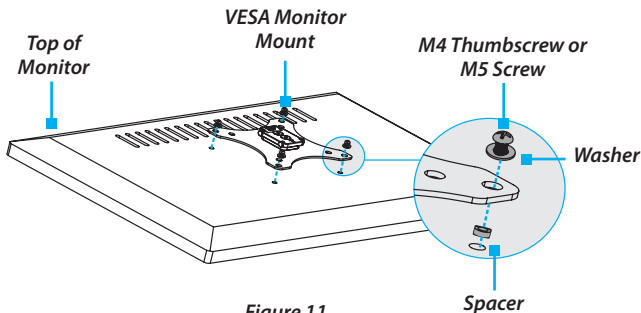

Figure 11
- If required, place the **Spacers (18)** over the mounting holes on the back of your monitor, and position the **VESA Monitor Mount (2)** over the spacers. Make sure that you position the **VESA Monitor Mount** so that the arrow on the back of the **VESA Monitor Mount** is pointed towards the top of the monitor.
- Position the **VESA Monitor Mount (2)** over the mounting holes on the back of your monitor. Make sure that you position the **VESA Monitor Mount** so that the arrow on the back of the **VESA Monitor Mount** is pointed towards the top of the monitor.
2. Position the four **Washers (17)** over the holes on the **VESA Monitor Mount**.
3. Insert the four **M4x12 mm Thumbscrews (15)** or the four **M5x12 mm Screws (16)** through the **Washers**, the **VESA Monitor Mount**, and into the back of the monitor. (*figure 11*)